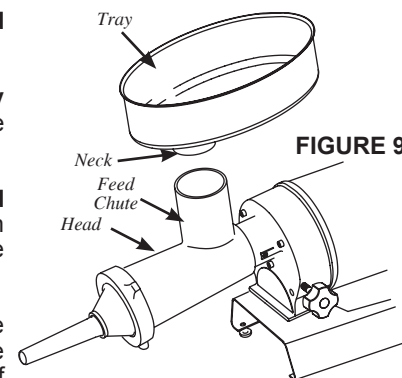

FIGURE 9
7. Insert the neck of the **Tray** into the **Feed Chute** (Figure 9).